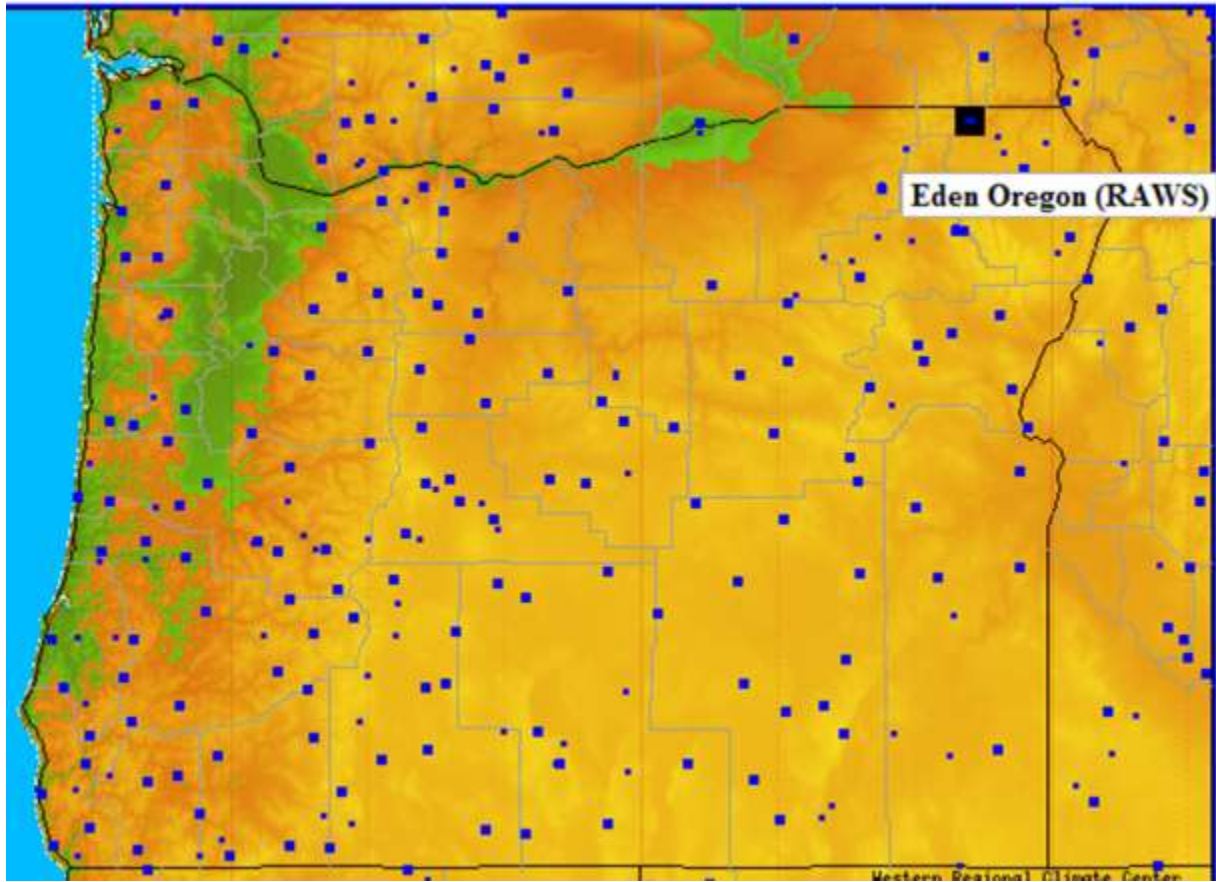

Figure 3-29—RAWS station in Oregon.
- 2) Click on the state of Oregon, then find the Eden RAWS and click on it to access the data (fig. 3-29).